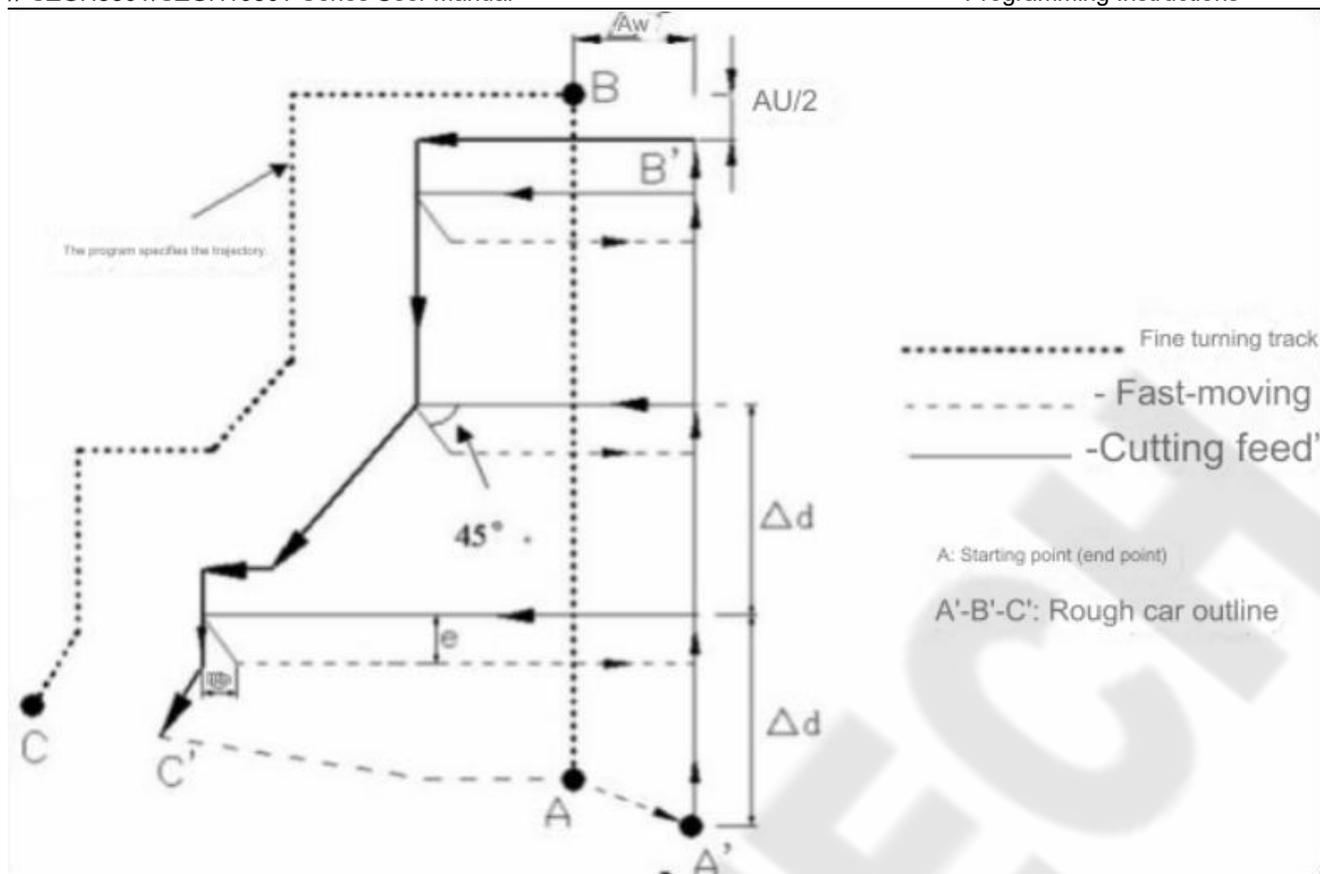

Figure 3-25 G71 code cycle trajectory
1) Code execution process: Figure 3-25.
- ① Quickly move from the start point A to point A', the X axis moves  $\Delta u$ , and the Z axis moves  $\Delta w$ ;
- ② The X axis moves  $\Delta d$  (feed) from point A', feeds at the rapid moving speed when the ns program segment is G0, feeds at the cutting feed speed F of G71 when the ns program segment is G1, and the feed direction is consistent with the direction of point A→point B;
- ③ The Z axis feeds to the rough turning contour, and the feed direction is consistent with the change of the Z axis coordinate from point B→point C;
- ④ The X axis and Z axis retract at the cutting feed speed e (45° straight line), and the retraction direction is opposite to the feed direction of each axis;
- ⑤ The Z axis retracts to the position with the same absolute coordinate of the Z axis of point A' at the rapid moving speed;
- ⑥ After the X axis feeds again ( $\Delta d+e$ ), if the end point of the movement is still in the middle of the connection of point A'→point B' (not reaching or exceeding point B'), the X axis feeds again ( $\Delta d+e$ ), then execute ③; if the end point of the movement reaches point B' or exceeds the connection of point A'→point B' after the X axis feeds again ( $\Delta d+e$ ), the X axis feeds to point B', then execute ⑦;
- ⑦ Cut and feed from point B' to point C' along the rough turning contour;
- ⑧ Quickly move from point C' to point A, the G71 cycle execution ends, and the program jumps to the next program segment of the nf program segment for execution.